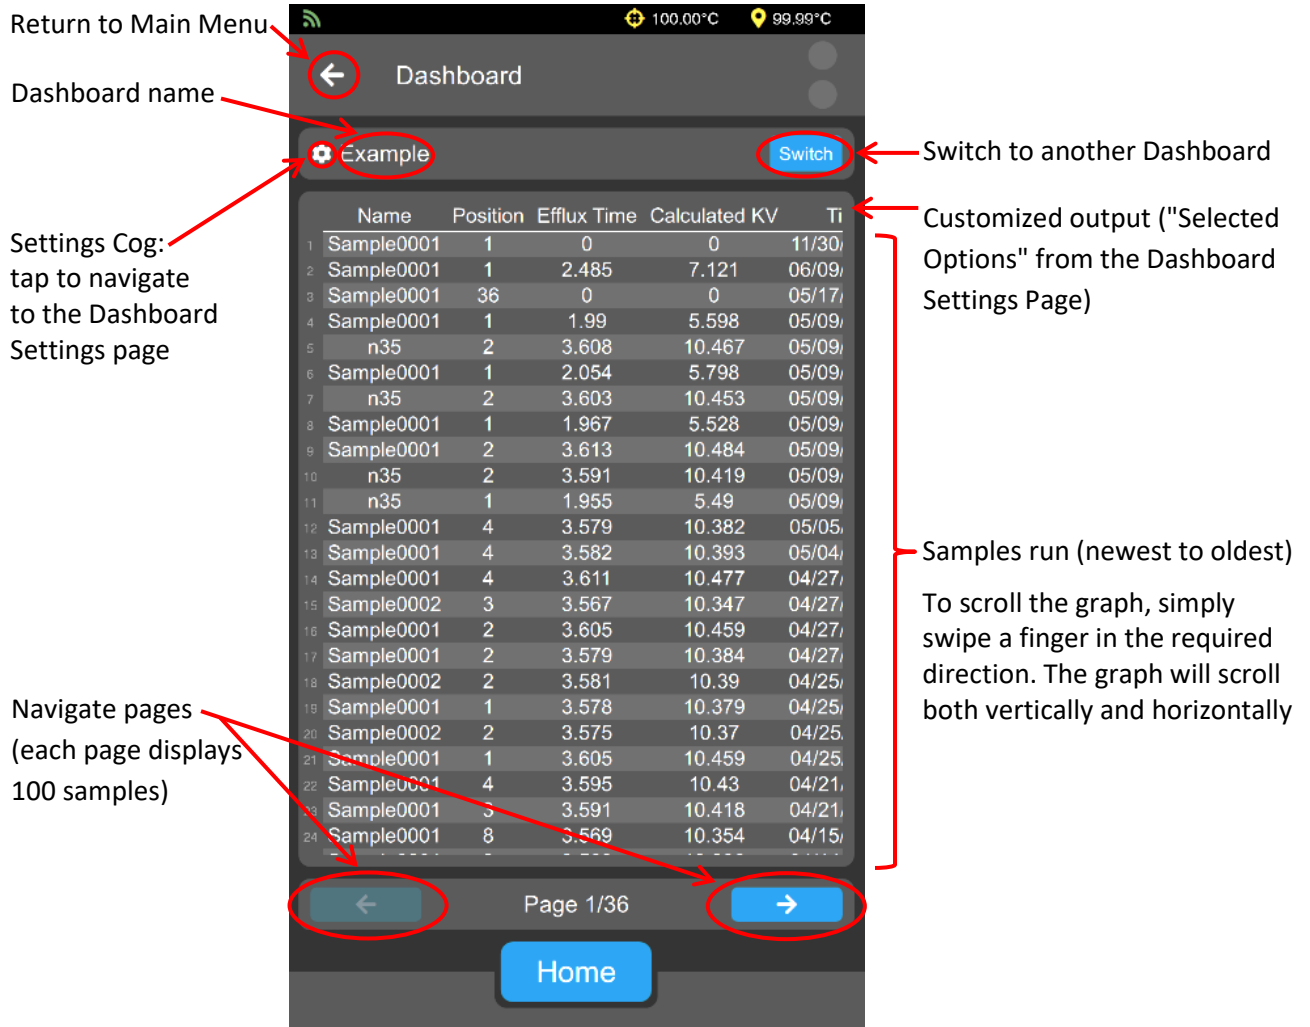

Figure 49: Dashboard Page
- When Dashboard Page opens, results are display based on the current Dashboard Settings. See Figure 49.
2. From the **Main Menu**, choose **Settings**. The **Settings** menu will expand, choose **Dashboards**. See Figure 49.